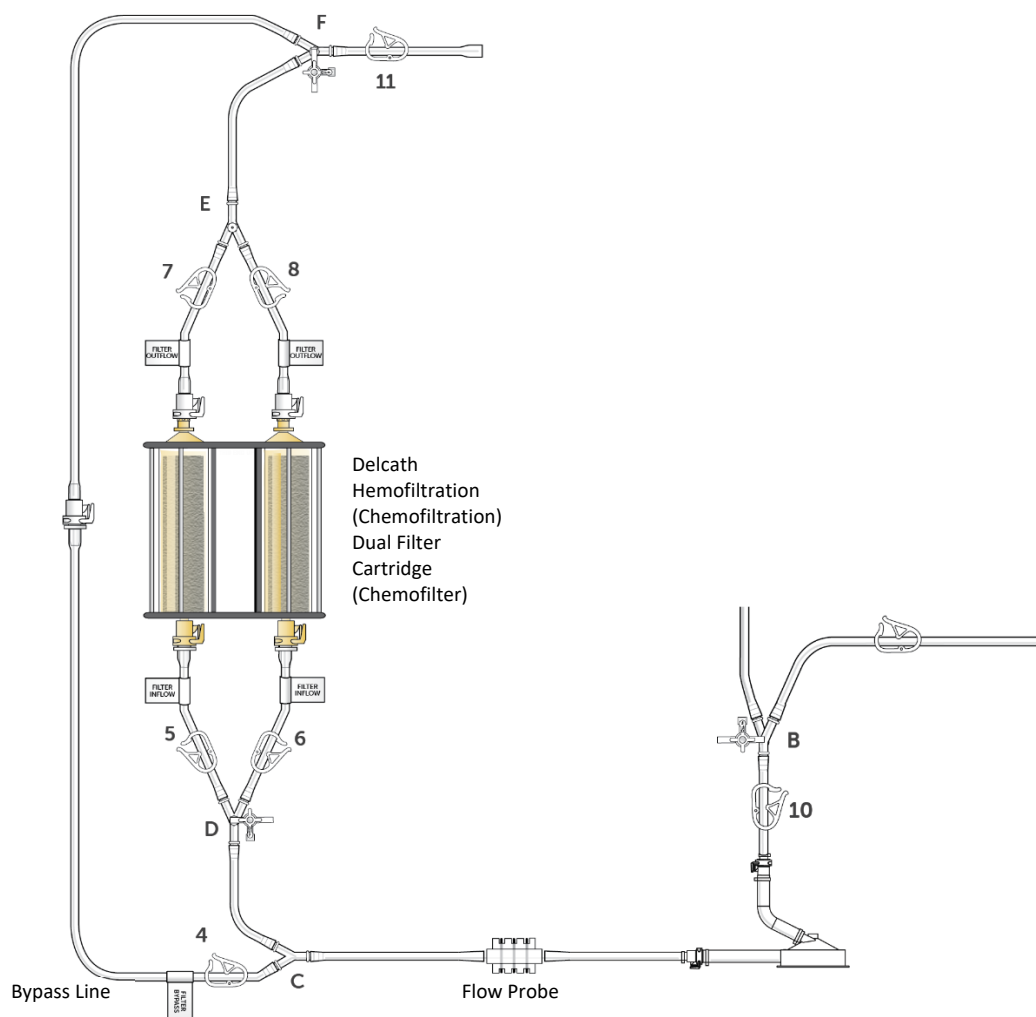

Figure 11
- (j) Attach the supplied stopcocks to the “B” (pre-pump), “D” (pre-filter) and “F” (outlet) Y-connector ports. Verify “Bypass Line” clamp 4 is open, as shown in Figure 11.